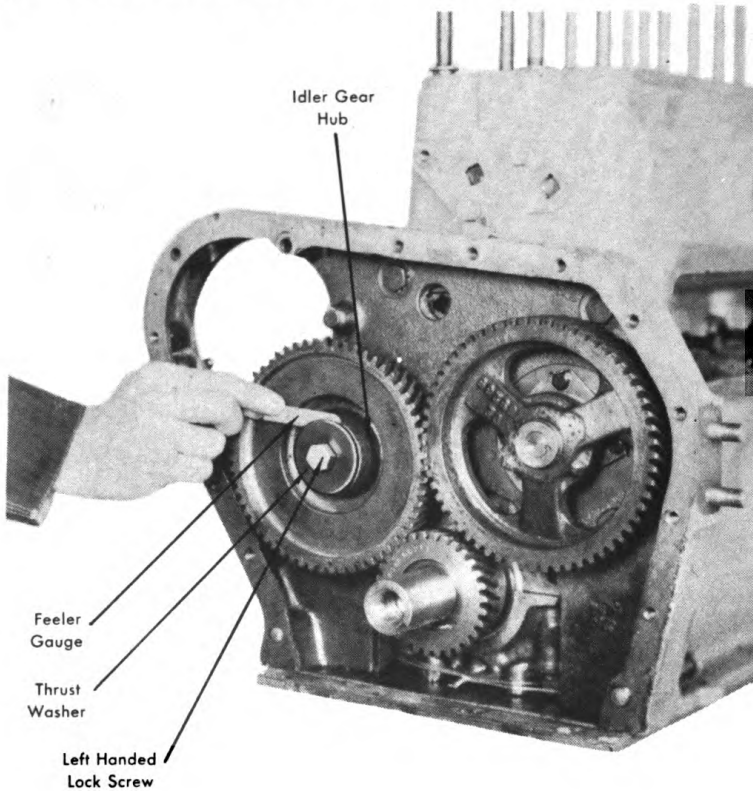

Figure 121. Checking Idler Gear End Play.
17. Check the idler gear end play by inserting a feeler gauge between the gear hub and the thrust washer. This clearance should be from .004" to .007". See Figure 121. Excessive end play can usually be overcome by replacing the thrust washer.